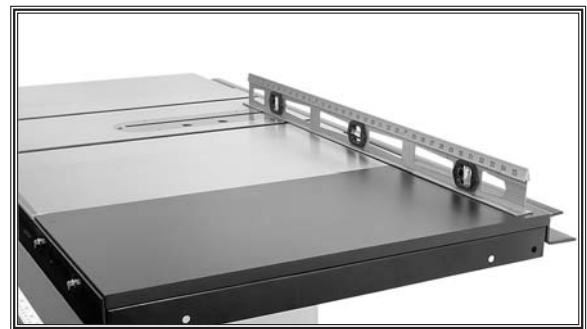

Figure 22. Adjusting Model W1819 extension table flush with wing and table.
2. Using a long straightedge, adjust the extension table so it is flat (both flush and parallel) with the main table and extension wings (**Figure 22**), then tighten the fasteners.
5. Adjust the extension table so it is flat (both flush and parallel) with the main table, using a long straightedge (similar to the method shown in **Figure 22**). This can be done by loosening the mounting bolts and adjusting the feet up/down as needed.